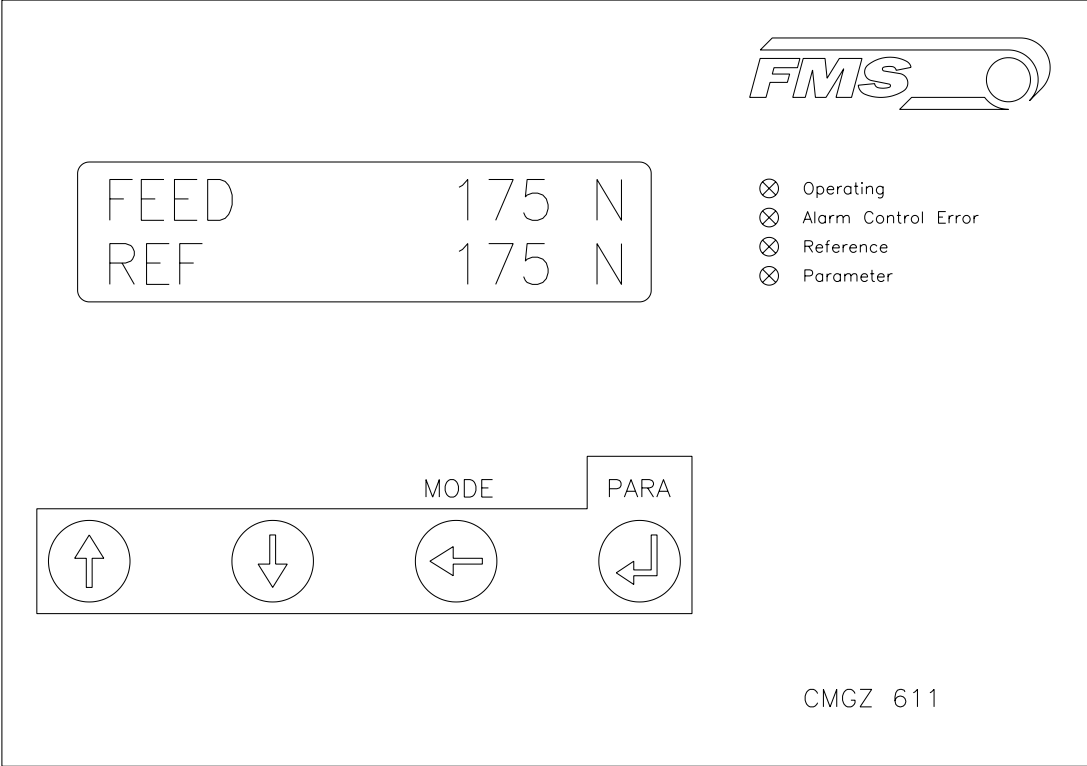

Fig. 14: Operating panel CMGZ611A
- Determine the offset by pressing the \leftarrow key for 3 seconds (fig. 14). The electronic unit calculates automatically the new offset value. The display will return to the main operating menu.